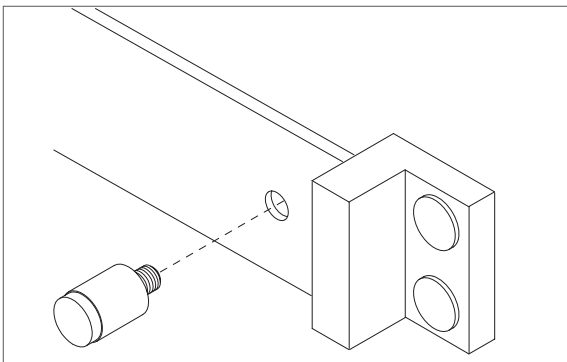

Figure 12
14. Install the soft stop (Figure 12).